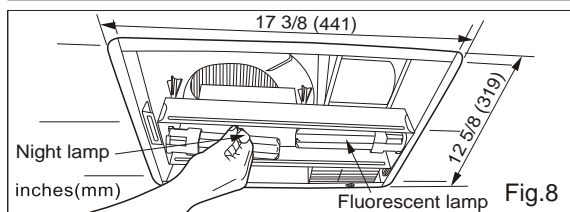

Fig.8
8. Finish ceiling work. Ceiling hole should be aligned with the edge of the flange. (Fig.8)
- * 9. Install the fluorescent lamps and then install the night lamp. (Fig.8)